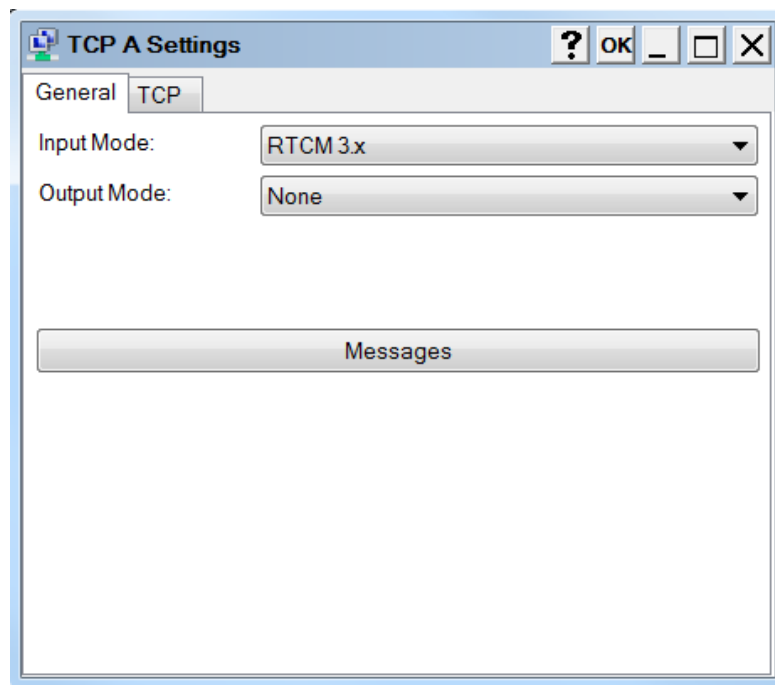

Figure 45: Serial Port Settings
2. Double-click the appropriate TCP Port name (Figure 45). The **Settings** screen for that port appears.
3. In the **Settings** screen, select the following (Figure 45):